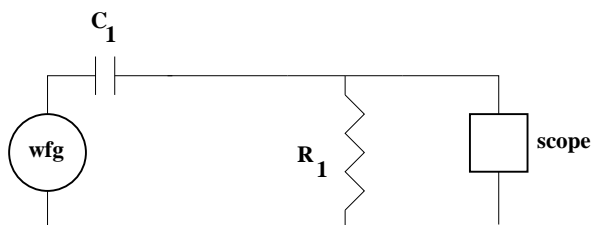

Figure 3: Circuit to generate sharp pulses.
2. The wfg is not quite fast enough to produce pulses short enough for our purposes. We will have to help it using a familiar trick of the trade. The “trick” in this case is simply to differentiate the signal by building a simple  $RC$  circuit. See figure 3. You will make the simple  $RC$  differentiator by soldering together a capacitor and a resistor. (  $R_1 = 47\ \Omega$  and  $C_1 = 100\ \text{pF}$ .) The instructor will help you with the soldering. Insert the differentiator into the output circuit of the wfg. The resistor  $R_2$  is used to adjust the input impedance of the scope.